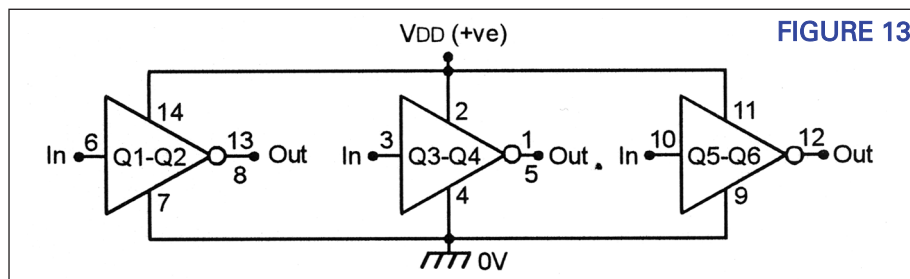
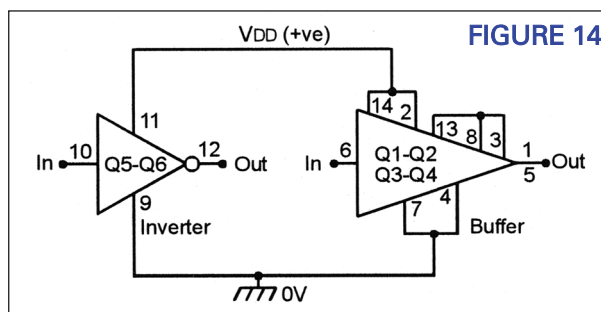

FIGURE 13
FIGURE 14
The 4007UB elements can be configured to act as any of a variety of standard digital circuits. Figure 13 shows how to wire the IC as a triple inverter, using all three sets of complementary MOSFET pairs. Figure 14 shows the connections for making an inverter plus non-inverting buffer; here, the Q1-Q2 and Q3-Q4 inverter stages are simply wired directly in series, to give an overall non-inverting action.
■ FIGURE 13. 4007UB TRIPLE INVERTER.
■ FIGURE 14: 4007UB INVERTER PLUS NON-INVERTING BUFFER.